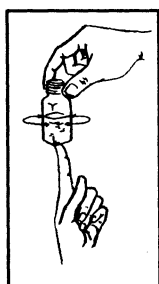

Figure 1
2. Open one DPD Free Chlorine Reagent Powder Pillow. Add the contents of the pillow to the mixing bottle. Swirl to mix as shown in Figure 1. The powder does not have to dissolve completely to obtain accurate results.
2. Open one DPD Total Chlorine Reagent Powder Pillow. Add the contents of the pillow to the mixing bottle. Swirl to mix as shown in Figure 1. Allow the sample to stand for three minutes before proceeding to Step 3.
3. Open one DPD Free Chlorine Reagent Powder Pillow. Add the contents of the pillow to the mixing bottle. Swirl to mix as shown in Figure 1. The powder does not have to dissolve to obtain accurate results.
3. Open one DPD Total Chlorine Reagent Powder Pillow. Add the contents of the pillow to the mixing bottle. Swirl to mix as shown in Figure 1. Allow the sample to stand for three minutes before proceeding to Step 4.